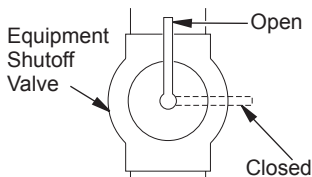

Figure 15 - Equipment Shutoff Valve
1. Close equipment shutoff valve (see *Figure 15*).
1. Open equipment shutoff valve (see *Figure 15, Page 16*).